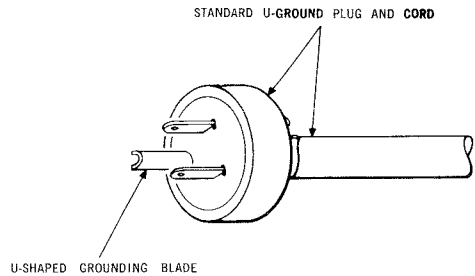

Fig. 4 — Standard U-Ground Plug
- 4.01 All electric power tools except lamps, soldering coppers and ALL-INSULATED tools, must be equipped with a 3-Conductor cord which terminates in a U-Ground plug. (See Fig. 4).